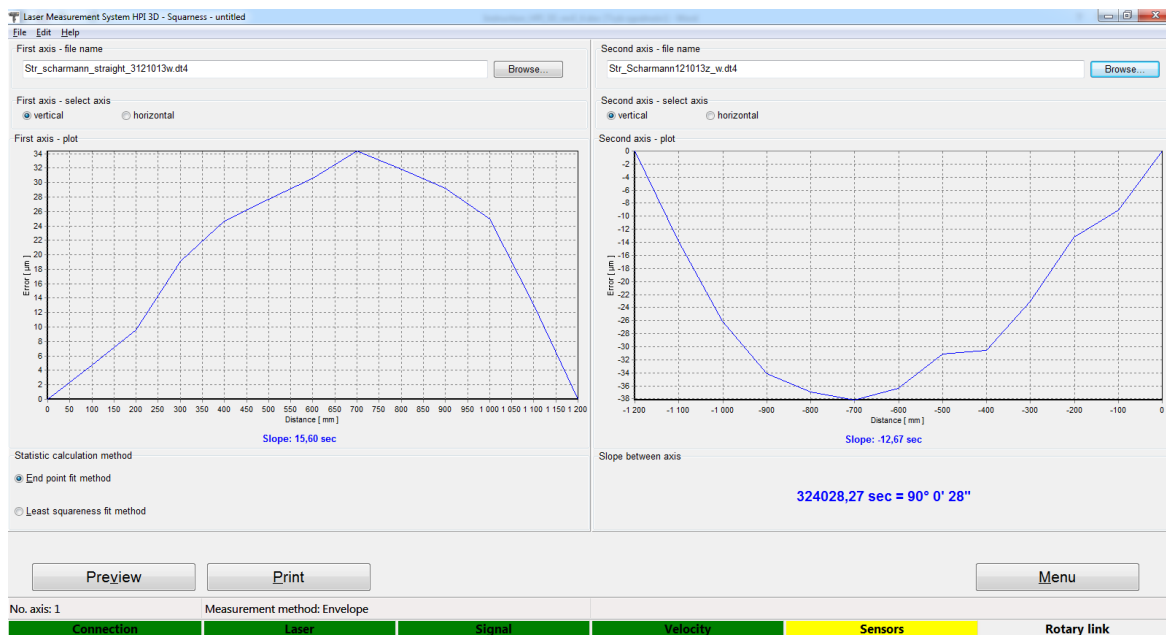
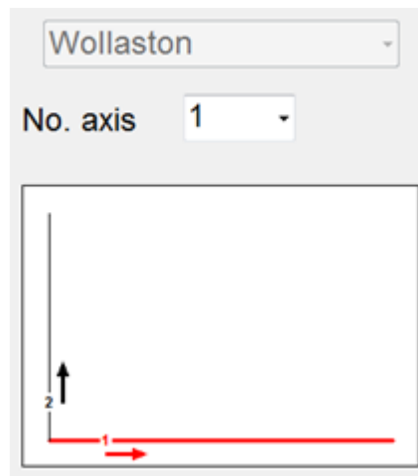
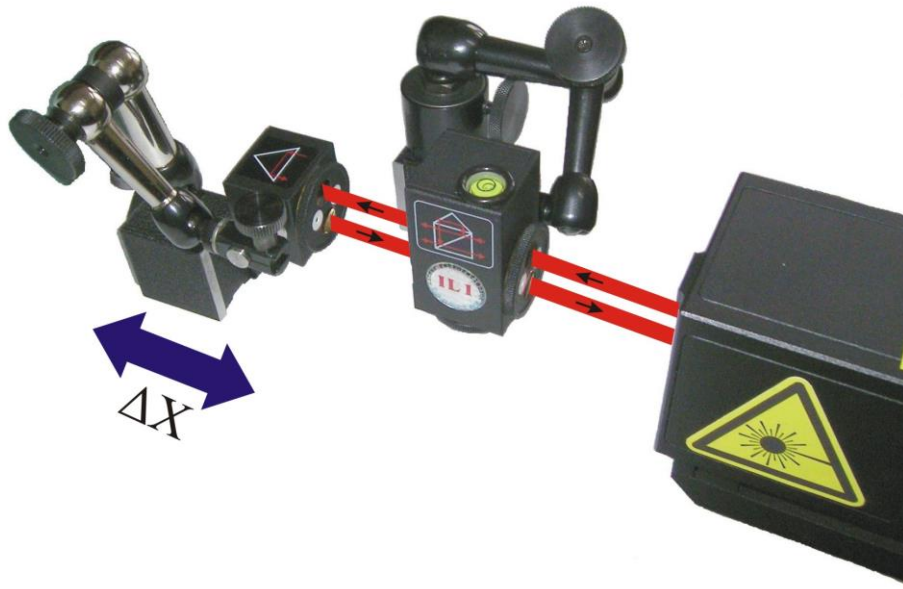

FIG.10.1. AN EXEMPLARY SQUARENESS RESULTS
FIG.10.9. AXES CHOICE CHART
FIG.10.10 OPTICAL PATH SET UP FOR 3D STRAIGHTNESS MEASUREMENTS
The squareness measurement is used to characterize the measured machine geometry, i.e. the squareness of axes. The measurement is performed using either 3D or Wollaston straightness measurement technique. In order to obtain the proper results, two measurements with the use of a right angle etalon are necessary. From obtained axes straightness data the squareness is calculated and drawn (fig.10.1.).
The squareness measurement consists of the straightness measurements for two axes. The measurement axis is selected on the measured surface as shown in the figure 10.9. In this figure there are also shown: directions of measurements and margins that have to be kept during measurements.
In both cases the measurements have to be performed in the directions pointed by arrows on the schematic graph on the main screen of squareness measurement (fig. 10.9).
Configuration of optical components for 3D and Wollaston methods are shown in the figures 10.10 and 10.11. In the figures there is omitted an REW element (see figures 10.3A and 10.3B).
When the machine data is properly configured (*Edit->Machine Data*), the *Measurement* button should be pressed. Next step is a measurement axis selection (fig. 10.9) and the optical path should be adjusted (see figures 10.10.and 10.11). If the straightness of the first axis is measured the optical path should be realigned and the next axis should be selected in the software. If both axes are measured, Back button should be pressed. Obtained squareness measurements summary (fig. 10.1) can be saved, printed or exported to a text file (*File->Save, File->Print* or *File->Export*).
9. When straightness data of all axes are measured then the Back button should be pressed. The software returns to the Squareness Summary screen – see figure 10.1